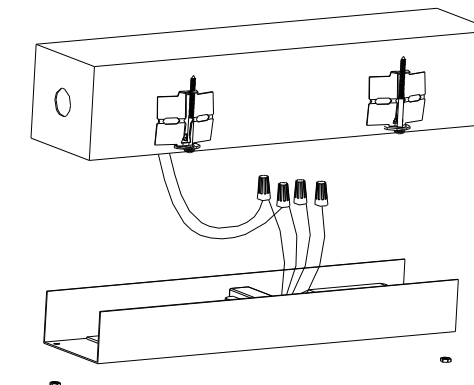

Fig. 8
7. Connect building supply wires to power supply wires in the metal housing as shown in Figures 8 and 9. For 120V supply connect line wire to the black lead and for 277V supply connect the line wire to the orange lead. Connect neutral wire to the white lead. The ground wire (green lead) must be connected in accordance with local codes.